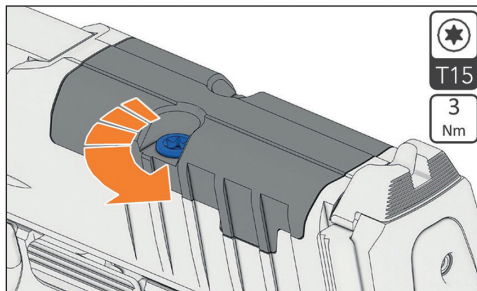

Figure 14 – Loosen screws
1. Loosen screws with a T15 torx bit and remove them (Fig. 14).